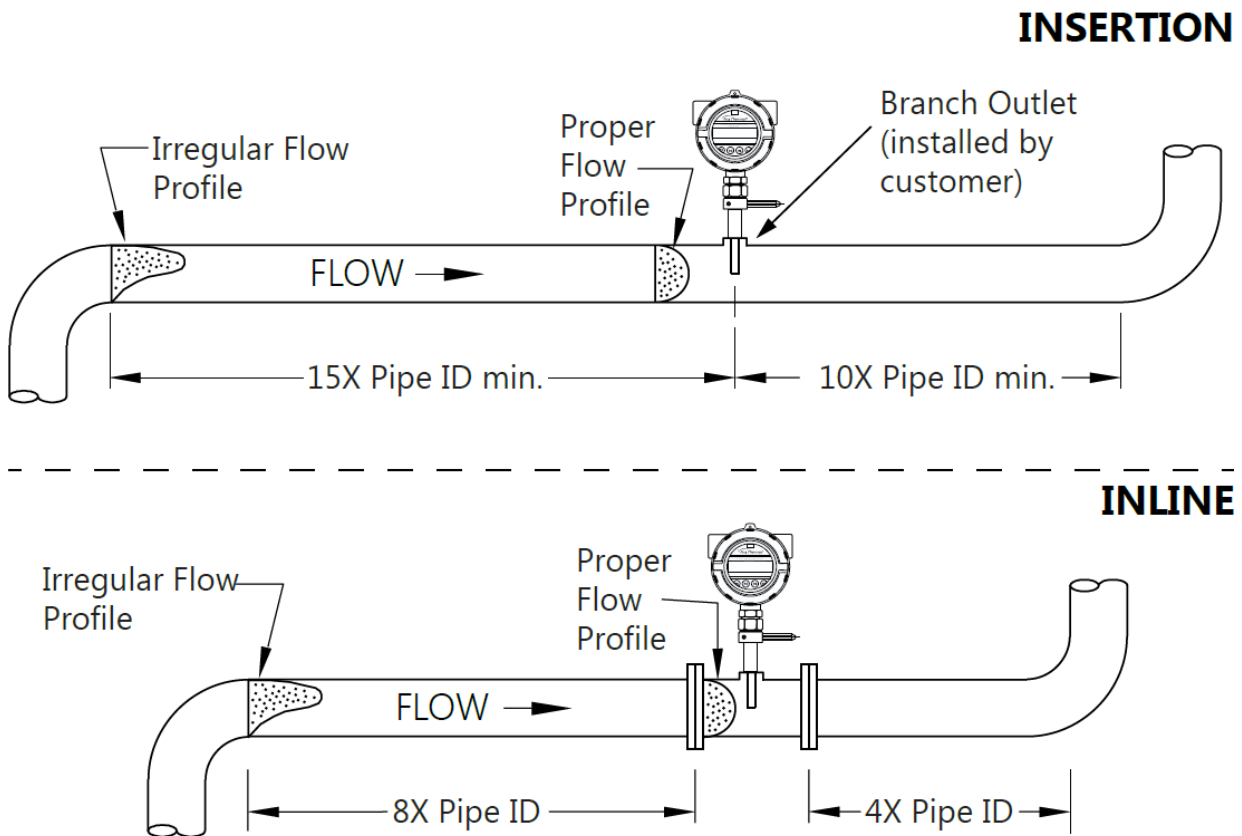

Figure 3: Necessary Amount of Straight Pipe for Mounting Flow Meter
1. The gas flow meter may be mounted in horizontal or vertical piping. See Figure 3 below for the necessary distance of straight pipe upstream and downstream of the meter. If the meter is not mounted per the requirements below, unstable and inaccurate flow readings are likely to result.